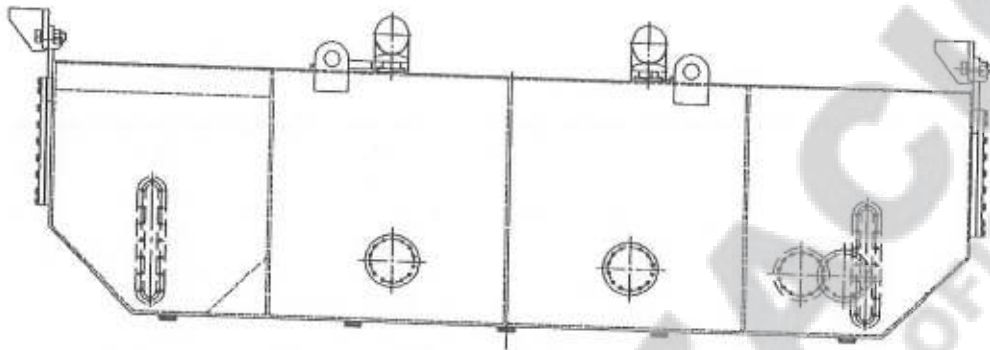

Figure 9 Profile drawing of fuel tank
- The fuel tank capacity is 1000L and it can meet the requirements for operation; the design of oil filler port is convenient for oil filling and configured with filtering device; the bottom of fuel tank is of inclined type and there is blow-down valve at the lowest position for ease of draining. The fuel tank gear is as shown in figure 9: